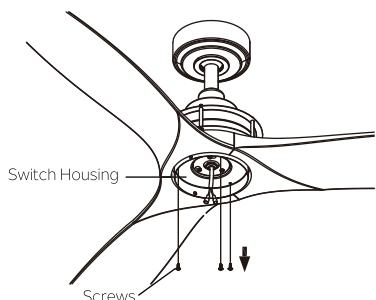

Fig. 25
**Step 5.** Remove the three screws pre-installed on the outer edge side of the switch housing and save for later use.(Fig.25)